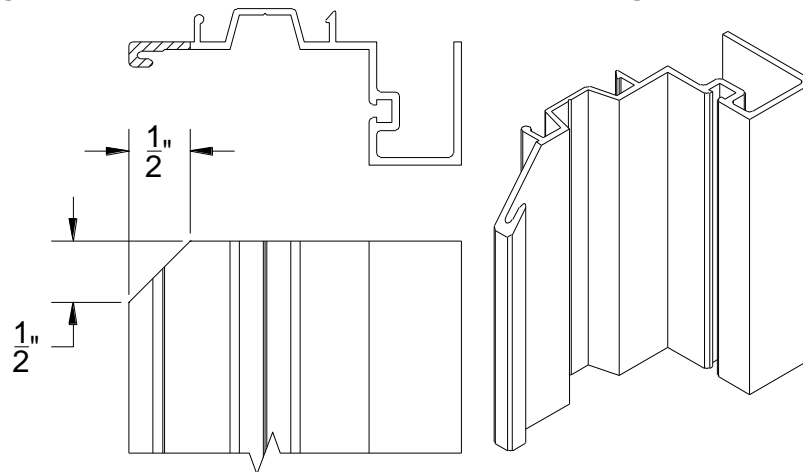

Figure 11: Fabrication of FG-5181 Transom Sash Notch
- 3.1.6 When using **FGT-5771** Transom Head and **FG-5760** Glass Stop with vertical **FG-5181** Transom Sash, notch the top of the Transom Sash as detailed in *Figure 11*.